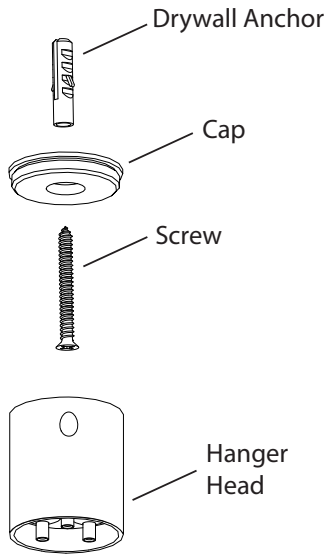
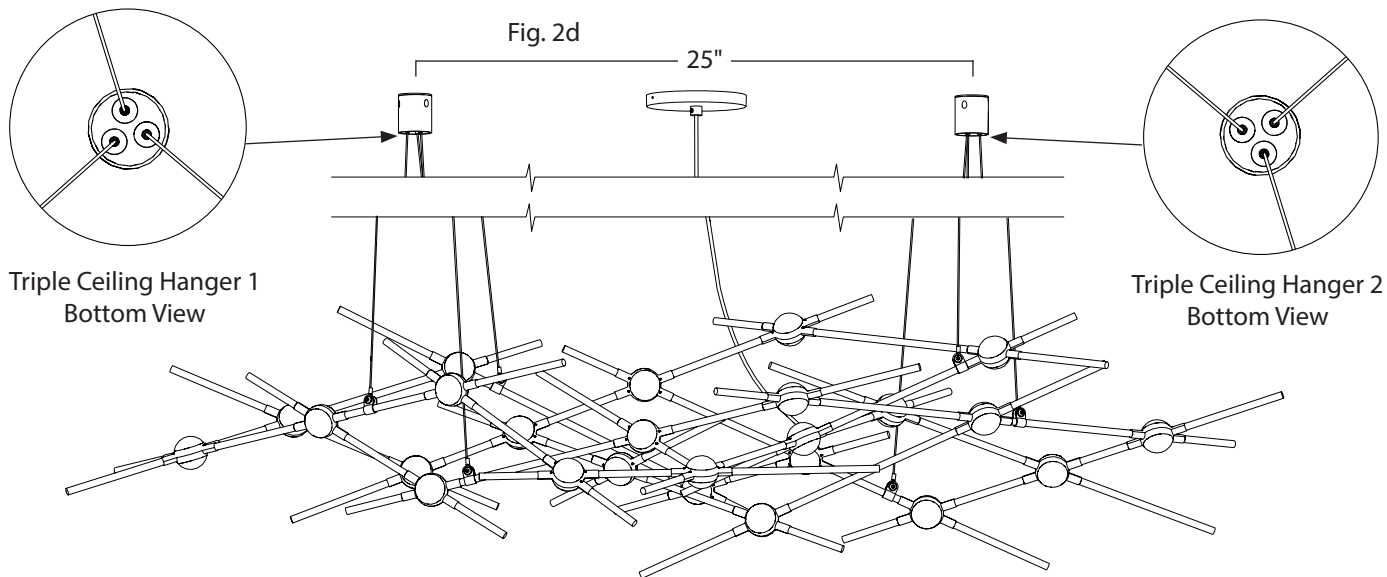

Fig. 2a
Fig. 2d
1. Mount the Triple Ceiling Hangers (2) by first installing the Caps onto the ceiling 25" apart (Fig. 2d) using the supplied Screws. Use provided Drywall Anchors if no joist is present (Fig. 2a).
2. Screw a Hanger Head onto each Cap. Note the Hanger Head orientation to align the Cable Grippers (Fig. 2d, bottom views).